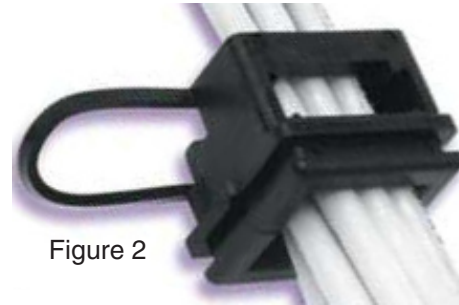

Figure 2
- Clamp the cables in the supplied gland as shown in Figure 2. A spare gland is included.